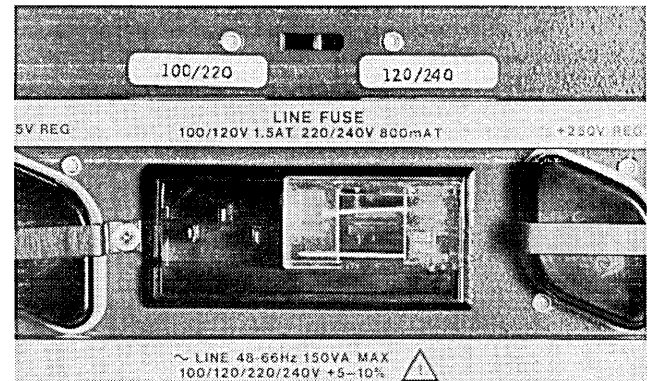

Figure 2-1. Line Voltage Selection Switches
b. Using a blade-type screwdriver, position rear-panel LINE VOLTAGE SELECT switches for desired ac input. (Figure 2-1 shows switches set for 120 Vac operation.)